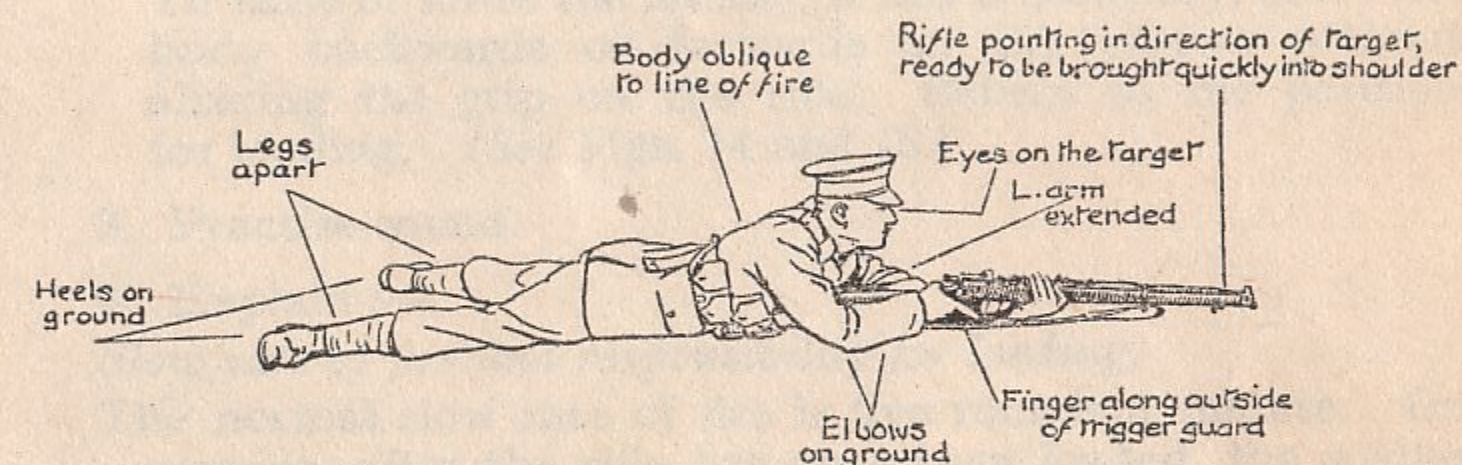

FIG. 13.
*Man will be taught to adopt the lying position rapidly and to handle the rifle with as little movement as possible. The oblique angle of the body (see Fig. 13) must not be exaggerated.*
- i. To lie down.—Take a long pace forward to the right front with the left foot. At the same time change the rifle into the left hand, grasping it at the point of balance. Place the right hand on the ground in line with the left foot and lie down: during this movement push the rifle forward in the direction of the target and lower it to the ground; the left arm will now be extended to the front (see Fig. 13).